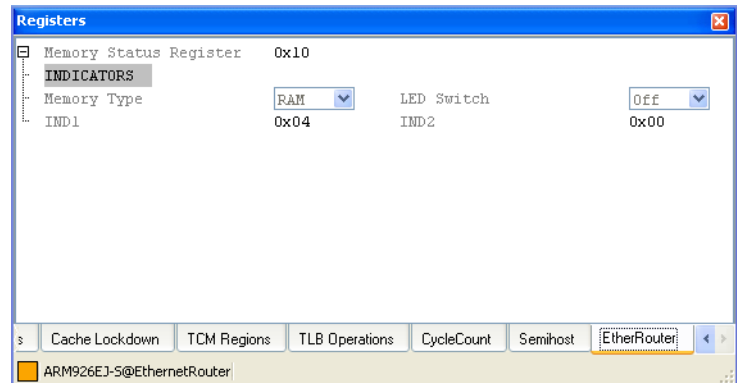

Figure 5-21 EtherRouter tab in the Registers view
3. Select the **EtherRouter** tab to view the custom registers. Figure 5-21 shows an example. You might have to click on the right scroll button to locate the tab.